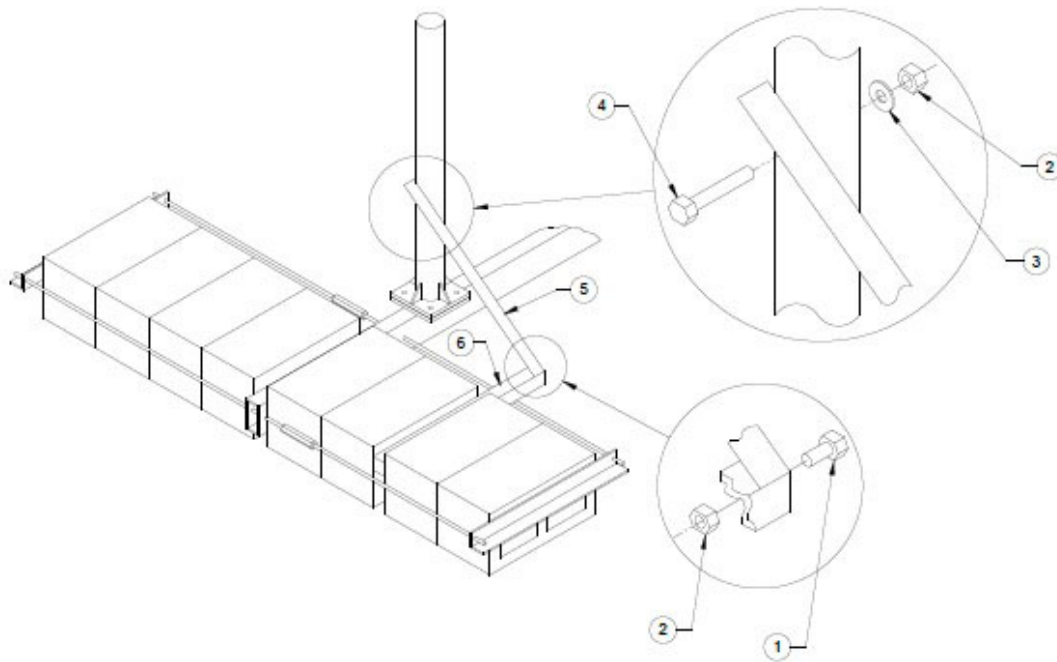

Figure 11: Brace Angel Assembly
12. Firmly attach the brace angle (5) to the lower mount angle (6) using the 3/8" x 1.00" bolt (1) and 3/8" whizlock nut (2). Tighten the brace angle at the mast (see Figure 11).